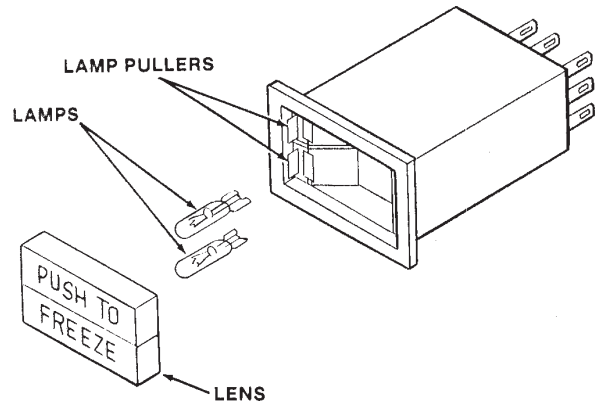

Figure 33. Push To Freeze Light/Switch Assembly
- B. Remove the faulty lamp by pulling out the lamp puller (See Fig. 33).